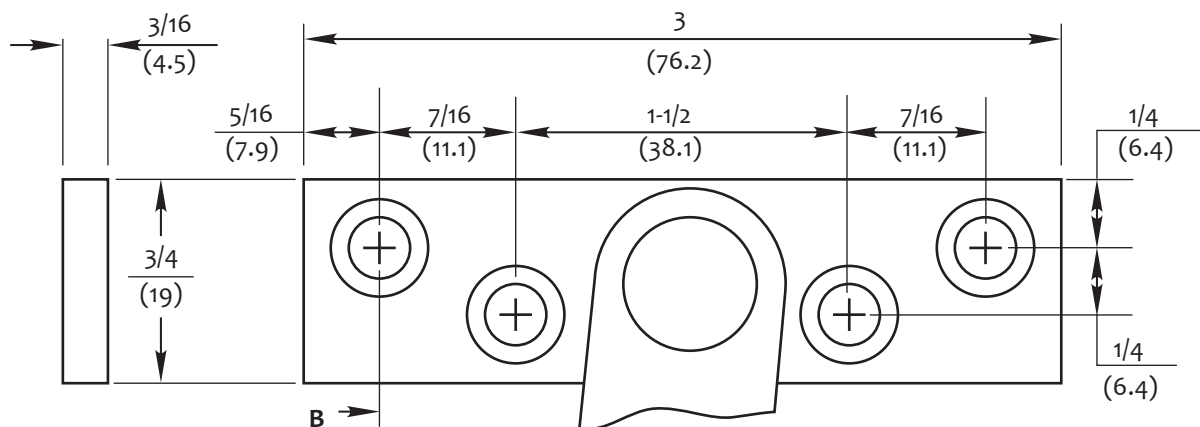

Figure 2 Jamb bracket screw hole dimensions
- Mark jamb bracket position. (Figure 2)
- Make 3/16" depth cutout for jamb bracket (Figure 2)